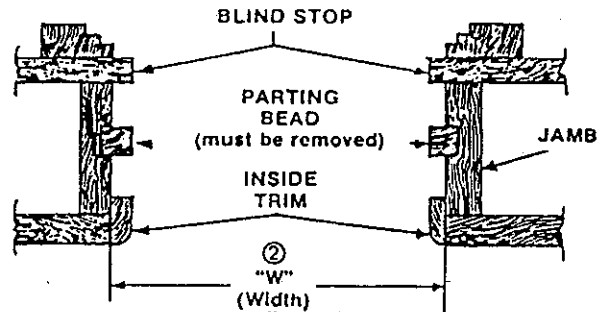

FIG. 1
WIDTH: Measure between jambs at three points: top, center, and bottom. Use smallest dimension. See Fig. 1. ② "W" (width).